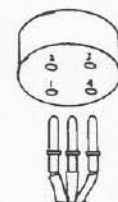

Figure 6
5. The pin connected to the white conductor of the cable should be inserted in hole 2, if high impedance operation is desired, or hole 3 if low impedance is desired. (See Figure 6)